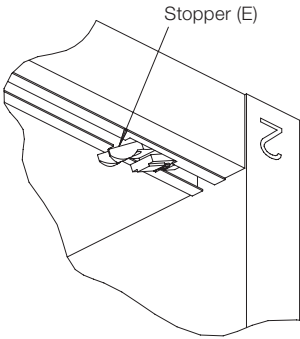

Figure 5A
4. Once all the running gears are installed onto the track(s), insert one stopper (E) at each end. (Fig. 5A & 5B)